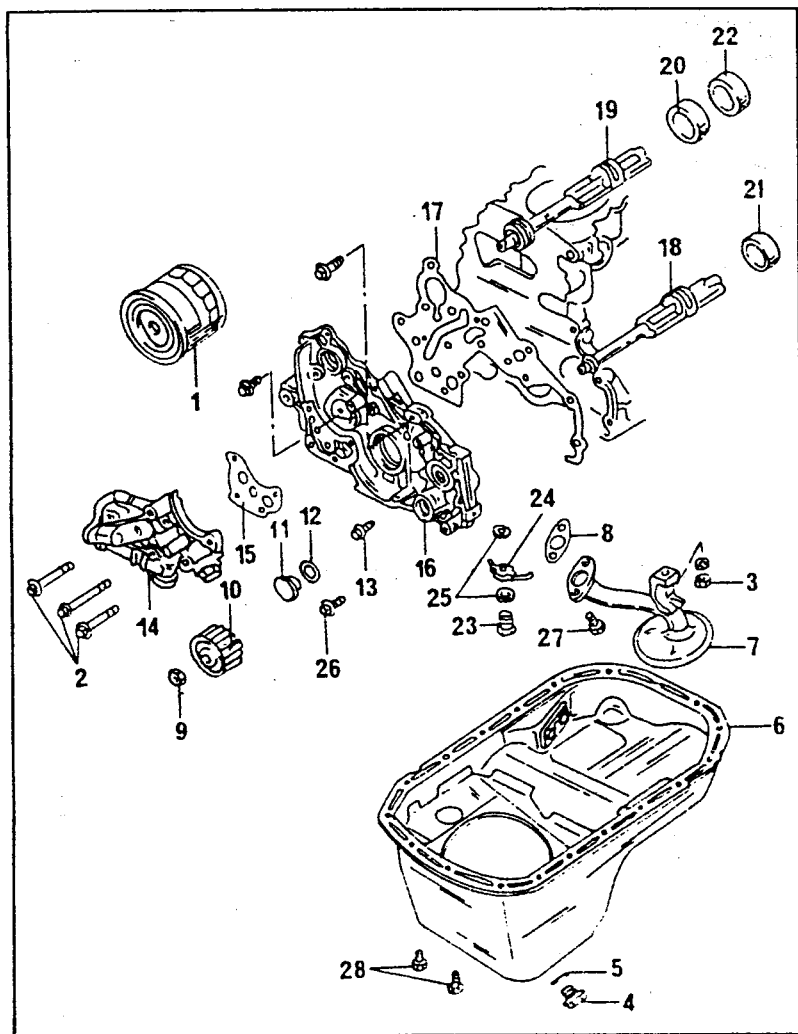
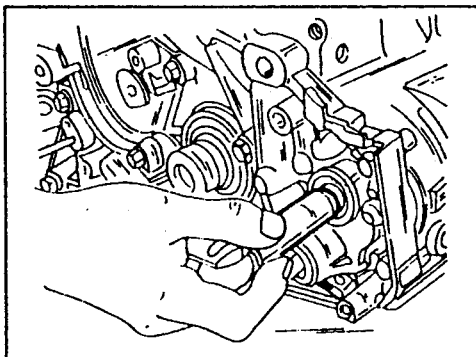
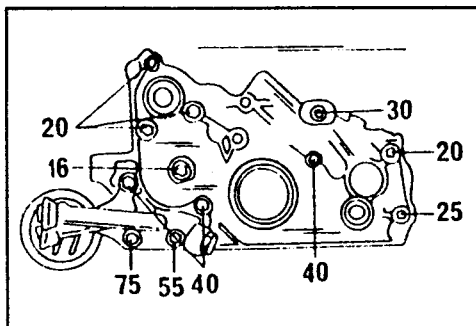

Fig. 2.2. — Exploded view of the balance shafts and the front housing ("G6" engine).
Fig. 2.9 — Tightening the bolt inside the housing bore on a 2.0 litre engine.
Fig. 2.10 — The length of the different bolts for the front housing. The numbers refer to the length in millimetres (2.0 litre).
The removal of the oil pump is carried out together with the balance shafts and these operations have already been described in Section 1.4.5 (see Fig. 2.2).
Fig. 1.68) to lock the shaft in position and tighten the shaft bolt to 3.7 kgm (27 ft.lb.). The bolt is inside the bore and must be tightened as shown in Fig. 2.9. Fit the plug (11) in Fig. 2.2 into the bore, using a new "O" sealing ring (12).
- Tighten the flange nut (9) for the oil pump drive gear with a torque of 5.5 kgm (39 ft.lb.).
- Fit the bracket for the oil filter with a new gasket and fit the front housing. The length of the bolts is different and must be taken from Fig. 2.10.